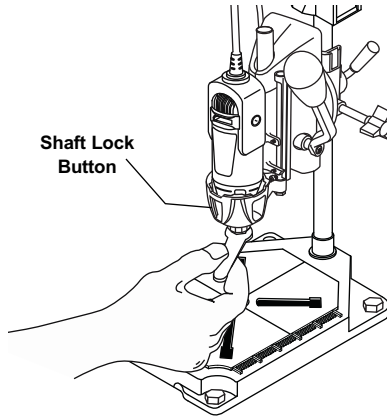

Figure 2. Loosening/Tightening Collet
1. Depress and hold the shaft lock button while rotating the collet nut and shaft. Continue to rotate the collet nut and shaft until the lock engages and holds the shaft (Figure 2).
Insert the cord into the cord clips (Figure 2). Holder will keep cord away from the work area. Make sure there is sufficient slack to keep the cord from being pulled taut when the full stroke of the press is used.